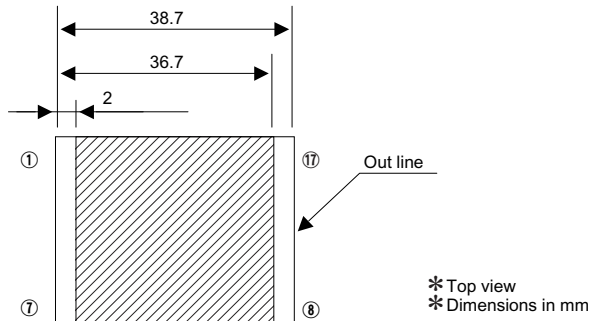

Fig.6.3 Prohibition area of pattern lay out
- Avoid placing pattern layout in hatched area in Fig.6.3 to insulate between pattern and power supply.